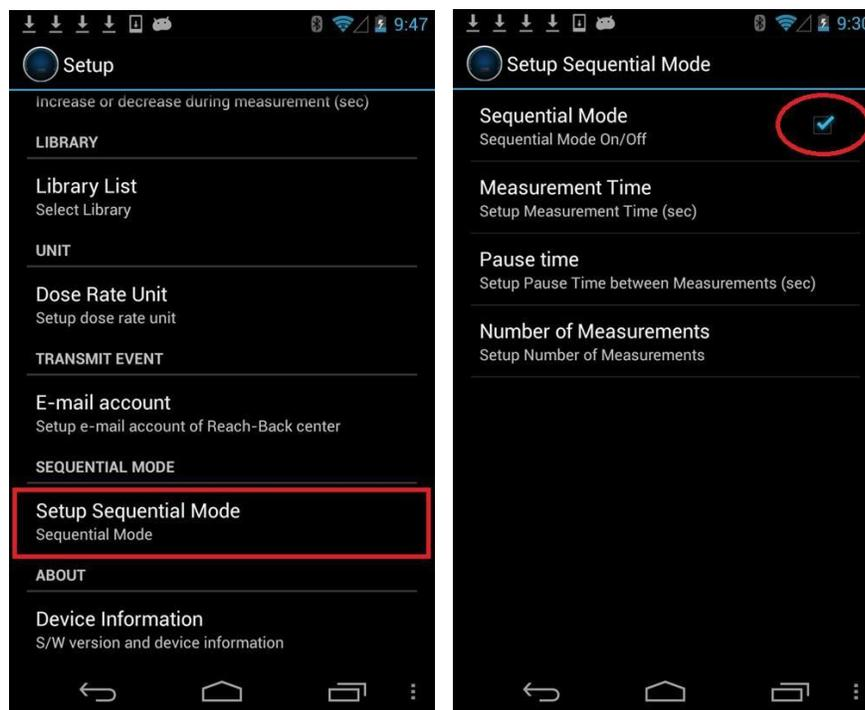

Figure 4.25. Sequential mode setup
2. To enable Sequential mode, place a check in the box (Figure 4.25).
If **Sequential mode** does not appear on the bar, it is currently disabled. To enable, make sure there is a check in the box as shown in Figure 4.25.